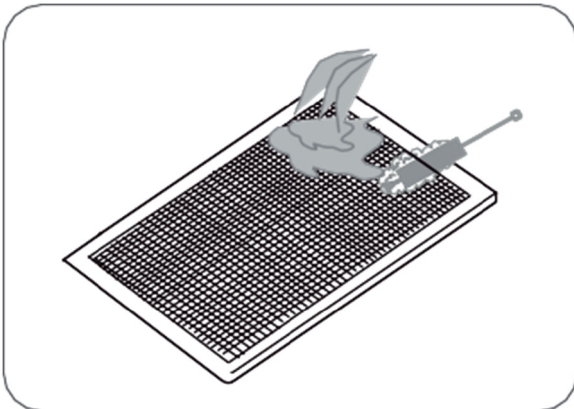

Figure 5-43
2. Shake off filter dust. Using a brush, wash it thoroughly with water. Figure 5-43. (After washing dry the filter)